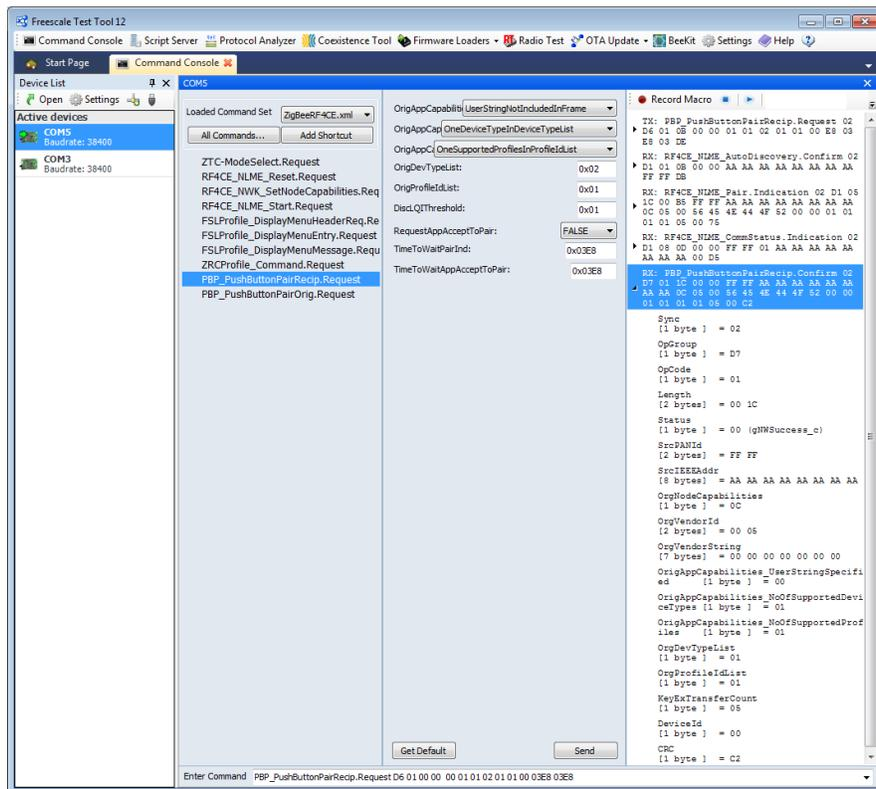

Figure 4-8. Push Button Pair Recipient parameters
11. On the target device, click on All Commands ->RF4CE layer command->PBP_PushButtonPairRecip.Request command and set the parameters in the Request as shown in Figure 4-8. Do not send the command yet.